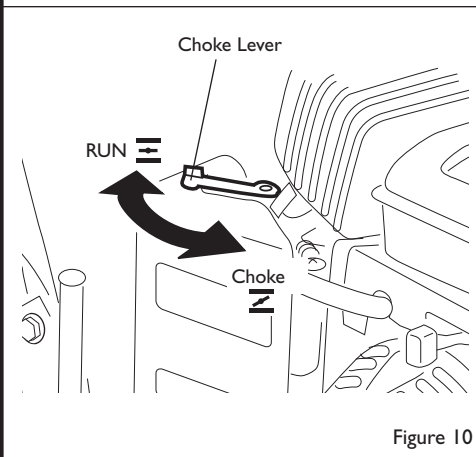

Figure 10
To start the engine, slide the choke lever to the **CHOKE**  position. After the engine has been running for 2-5 seconds, slide the choke lever to the **RUN**  position. (See Figure 10)
6. Slide the choke to the CHOKE position. (See Figure 10)